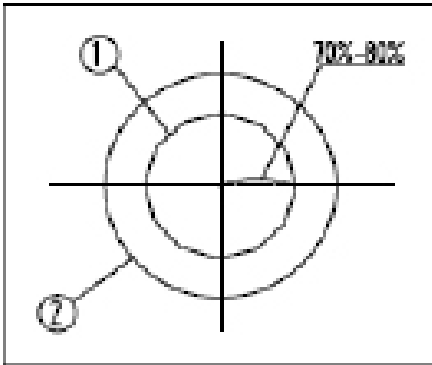

Fig. 14
2. Adjust condenser adjustment knob (3) in a clockwise direction, raise the condenser to the top to allow the illumination to fill the field of view. If the specimen contrast of your sample is low, it is advised to adjust the condenser aperture diaphragm to be 70%-80% of the N.A. of objective. Rotate the aperture diaphragm adjustment ring (4), align the arrow with the magnification position on the condenser (5). The eyepiece can be taken off if necessary to observe from the eyetube. Adjust the aperture diaphragm (14) adjustment ring (4) until it matches the figure as shown in Fig. 14, to adjust the proportion (see Fig. 14&15, (1) is placing the image of the aperture- diaphragm, (2) is the edge of objective).